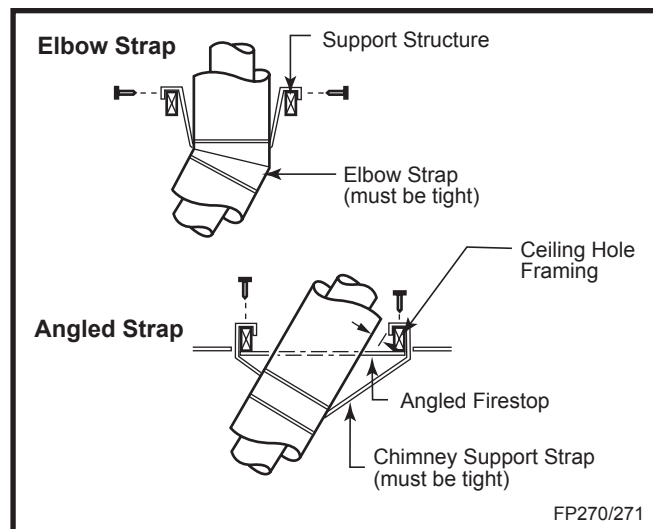

Fig. 38 Attach straps to a structural framing member.
- SKCS8 must be used to support offsets. (Fig. 38) This application will require that you first determine the roof pitch and use the appropriate starter kit. (Refer to Venting Components List)